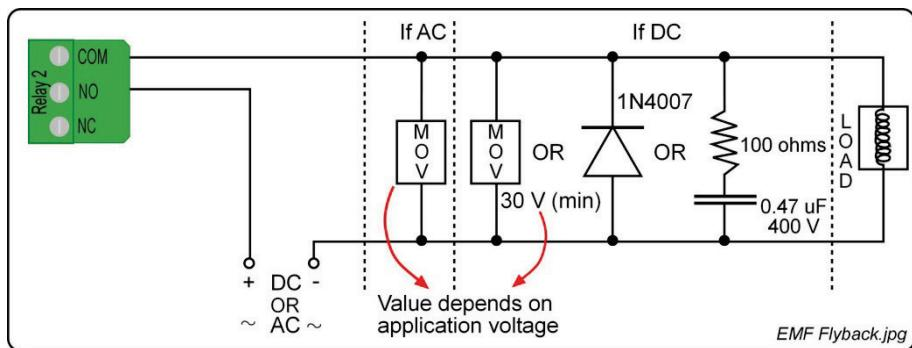

Figure 2: EMF Flyback and Arc Suppression
Snubber devices are recommended for EMF Flyback and Arc Suppression when driving an inductive load with the Relay, see Figure 2.
**NOTE:** \* Refer to **Figure 2** on page 5 for Arc Suppression details when using inductive loads across the relays.